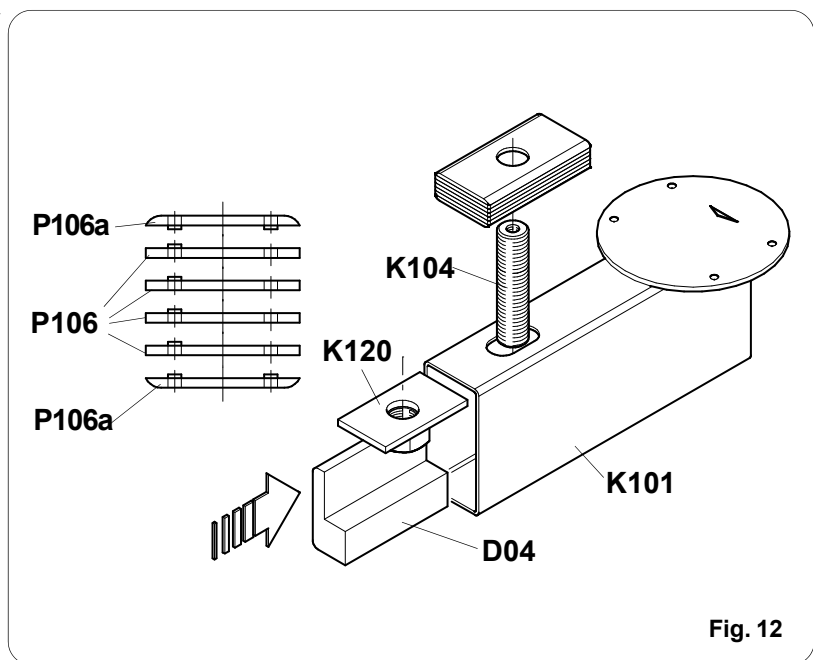

Fig. 12
- At this point form the **P106 - P106a** spacer package which will determine the size of the rise set previously. To define the number of spacers to be used, refer to the “**table A**” attached to the pages 9-10-11. Form the spacer package by assembling the **P106 - P106a** spacers as shown in fig. 12.
- Insert the **K120** plate into the **K101** support module and maintain its position by means of the **D04** template as shown in fig. 12. Screw the **K104** pin into the **K120** plate described above as shown in fig. 12